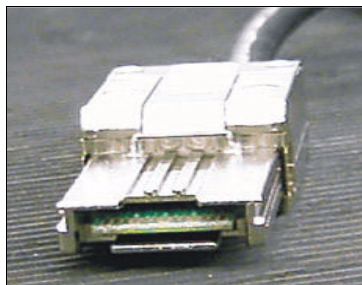

Figure 2-15 Mini-SAS (SFF-8088) connector
- Mini-SAS (SFF-8088), as shown in Figure 2-15